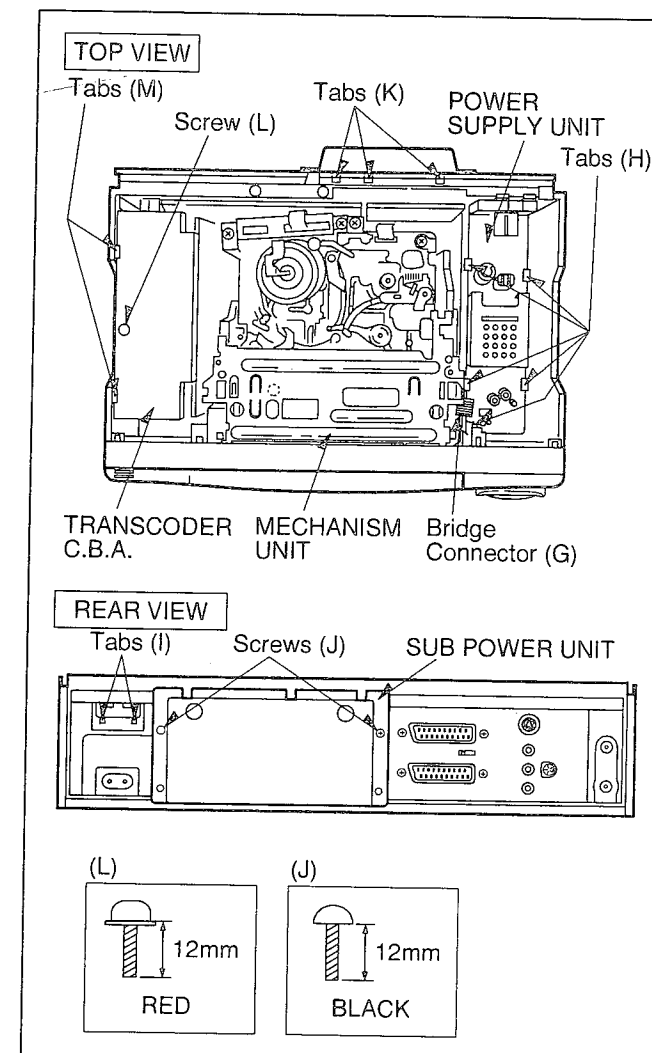

Fig. D6
Disconnect ... Bridge connector (G) [Fig. D6]